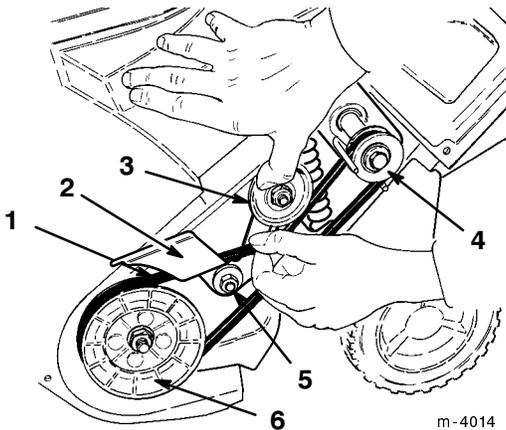

Figure 19
- Loosen the idler pivot nut (Fig. 19).
- Remove the drive belt from the rotor pulley (Fig. 19).
- Push down on the idler pulley to release the brake arm and pull the drive belt from behind the brake arm (Fig. 19).
- Slide the drive belt off of the drive pulley (Fig. 19).
- Loop the new drive belt around the drive pulley and behind the brake arm (Fig. 19).
- While holding the drive belt, slip the belt onto the rotor pulley and rotate the rotor with the other hand until the drive belt is completely on the rotor pulley (Fig. 19).
- Torque the engine mounting nuts and the idler pivot nut (Fig. 19) to 170 to 200 in-lbs (19.2 to 22.6 N·m).